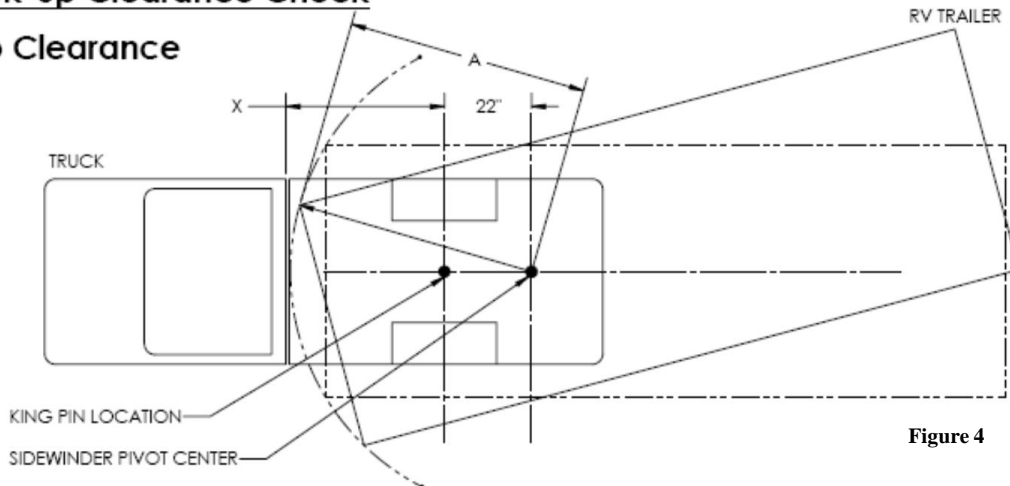

Figure 4
3. Trucks & RV Trailers come in many different configurations; Installations of 5th Wheel Hitches often vary by installer, it is necessary to check the clearances in figures 4 & 5 before hook up and towing with Sidewinder™.
The Measurements in figures 4, 5 & 6 are guidelines, If your measurements are close to these numbers, re-check clearances. If vehicle and/or trailer has any added bed vanity accessories (i.e. fairings, air dams, ground effects, bed rails, etc.) additional dimensioning and clearance checks have to be made. CPP is not responsible for damage incurred due to disregarding these clearance checks.